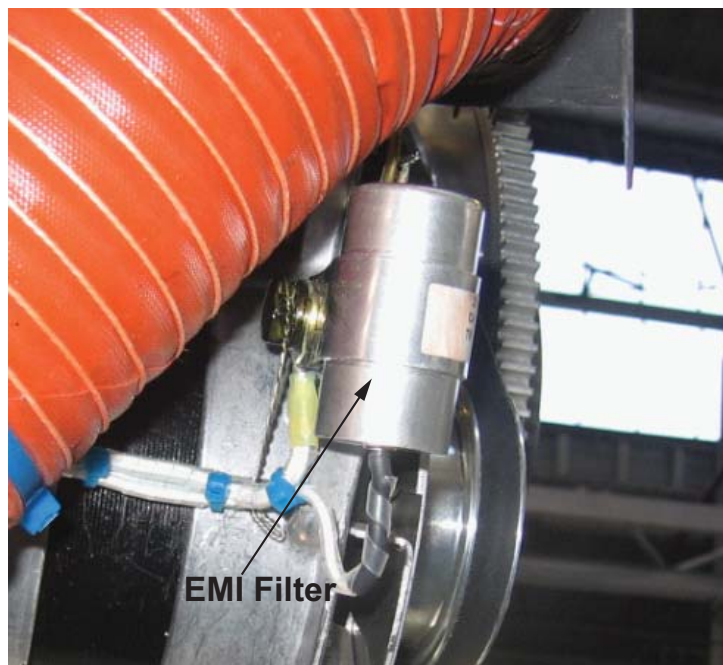

Figure 2
- 10.1.6 Install the EMI filter (P/N A-9756) onto the alternator flange as shown in Figure 2.